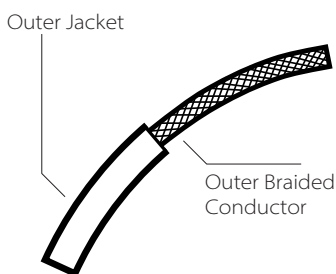

Fig. 1
1. Align the notches in the diffuser (A) with the posts in the fixture ring (B) (Fig. 1). Insert the diffuser and gently turn clockwise to lock it in place. Repeat with remaining diffusers.
2. Shut off power to the outlet box (C).
3. Make appropriate electrical connections to the power supply (D) using wire nuts:
- c. Connect the power supply's ground wire (green or uncoated) to the ground supply wire. If no ground wire is present in the outlet box, connect ground wire to the mounting plate (E) using the green screw (included).
4. Place the power supply and all wired connections carefully into the outlet box (C). Attach the mounting plate (E) to the outlet box with outlet box screws (F).
5. Hook the tab (I) inside the top edge of the canopy (G) over the top flange of the mounting plate, align the bottom edge of the canopy over the bottom flange of the mounting plate, and secure by tightening the set screw (H) using the included hex key.
6. Restore power to the outlet box (C).
1. Make a 1" slice along the length of the cord's outer jacket (Fig. 1).
2. Carefully strip the outer jacket of the cord and keep the outer braided conductors intact (Fig. 1).